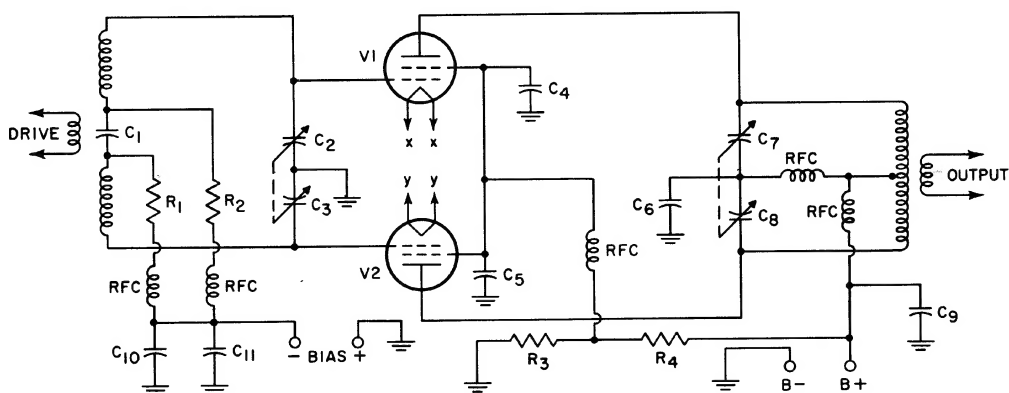

Figure 3. A transmitter final amplifier circuit.
While the transmitter circuit shown in Figure 3 may differ considerably in design from those found in many ham rigs, the measurement techniques and precautions described for it apply to all transmitter amplifiers. In all high-power equipment, checking and adjustment of ac filament voltages is especially important to tube life and performance. Grid-bias voltages are equally important because they have a direct effect upon the screen and plate dissipation of the tube under key-up conditions. The value of the grid-bias voltage also affects drive requirements and sets the operating level (class of operation) of the amplifier. In tetrodes, screen voltages should be carefully adjusted to insure that screen dissipation is kept within proper limits under both key-up and key-down conditions. Plate voltages, as well as plate current, should be determined exactly when the operating level borders on the legal input-power limit or the maximum permissible ratings for the tube type.
In setting up an rf amplifier for the first time, use the VoltOhmyst to make precautionary measurements before applying plate and screen voltages. When checking out a high-power amplifier, such as that shown in Figure 3, use the following procedure: (1) Apply filament and grid-bias voltages. Remove excitation. (2) Set up the VoltOhmyst for ac-voltage measurements. Check the filament voltage of each tube directly at the filament pins (xx) and (yy) by connecting the ground cable to one pin and the ac probe to the other pin at the same tube socket. Filament voltage should be within at least  $\pm 5\%$  of the recommended voltage for the tube type. (3) If the voltage measured at either filament is off by more than  $\pm 5\%$ , measure the line voltage on the primary side of the filament transformers. If line voltage is correct, IR drop in the filament wiring may be responsible. In this event, replace the wiring with heavier conductors. It is also possible that one of the filament transformers may need replacement because of improper turns ratio. (4) Check the fixed grid bias by setting up the VoltOhmyst for “-DC” voltage measurements and read the voltage directly at the grid pins of both tubes. This is a wise precaution, especially in equipment which is not protected against grid-bias failure. If proper voltage is measured for both tubes, the wiring is correct and the fixed-bias supply is functioning properly.
The separate bias-supply leads feeding the two halves of the grid circuit in Figure 3 are provided as a means of checking the balance of the push-pull circuit. Do not attempt to measure total grid voltage at the grid pins when excitation is applied because of the high rf grid voltage. (5) Adjust the grid-tank tuning and the coupling to obtain the required amount of grid current in both grid-circuit legs. Remove excitation. (6) The amplifier can now be checked for plate-current cutoff or, if it is to be operated class AB or B, for the required amount of static plate current. With fixed bias applied and excitation removed, apply plate and screen voltages. Note the plate current flow, if any, and adjust the bias voltage from the supply to give the required cutoff or static current. Remove the high voltage. (7) The plate and screen circuits can now be checked with excitation applied and with the amplifier under dummy load. In circuits which employ high-perveance tubes, take care to prevent excessive plate and screen current flow while tuning. Unless dial settings of plate-tank resonant points are first established by